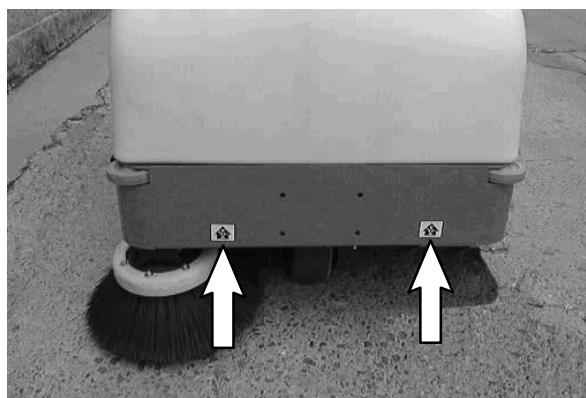

FIG. 1
3. Jack up the front end of the machine high enough to access the front wheel drive assembly and remove the front wheel drive assembly from under the machine. Place jack stands under the machine frame and lower the machine onto the jack stands. (Fig. 1)